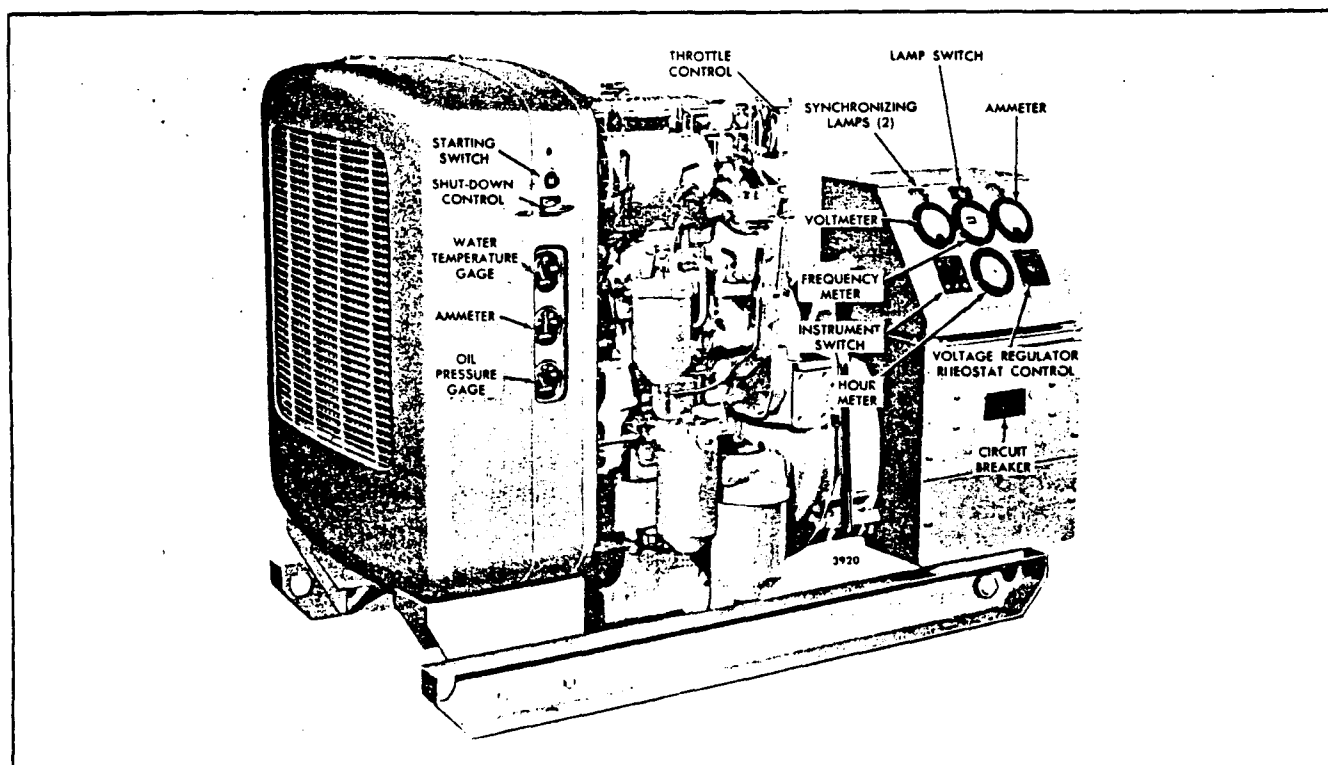

Fig. 1 - Location of Controls on Power Generator Set
These instructions cover the fundamental procedures for operating an alternating current power generator set (Fig. 1). The operator should read these instructions before attempting to operate the generator set.
4. Refer to Fig. 1 and place the circuit breaker in the *off* position.
Press the throttle button and turn the throttle control counterclockwise to a position midway between *run* and *stop* (Fig. 1). Then, press the starting switch firmly.
2. Check the voltmeter (Fig. 1); the voltage must be the same as the line voltage. Adjust the voltage regulator rheostat control if the voltages are not the same.